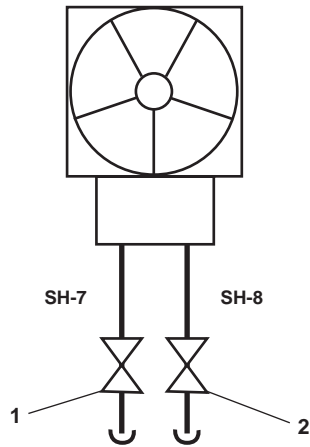

Figure 2. Emergency Steering Hand Pump
- a. SH-7, HAND PMP C.O.V. (figure 2, item 1)
- b. SH-8, HAND PMP C.O.V. (figure 2, item 2)